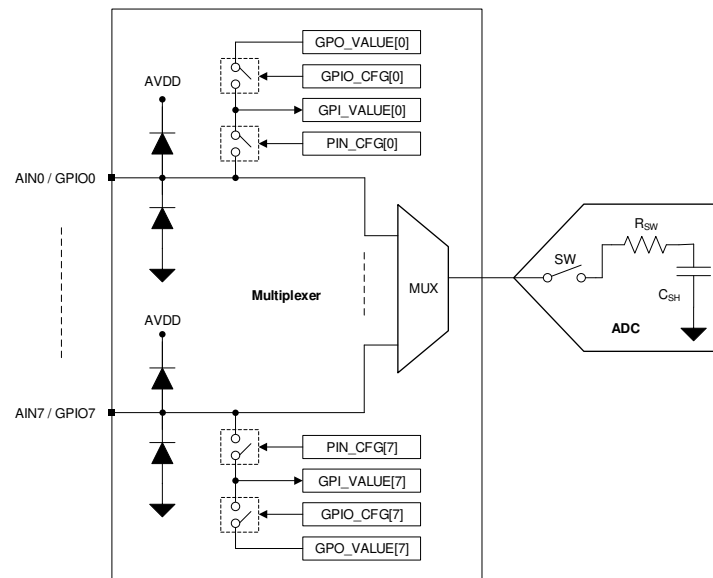

Figure 22. Analog Inputs, GPIOs, and ADC Connections
The eight channels of the multiplexer can be independently configured as ADC inputs or general-purpose inputs/outputs (GPIOs). Figure 22 shows that each input pin has ESD protection diodes to AVDD and GND. On power-up or after device reset, all eight multiplexer channels are configured as analog inputs.
Figure 22 shows an equivalent circuit for pins configured as analog inputs. The ADC sampling switch is represented by ideal switch (SW) in series with the resistor R_{SW} (typically 150 Ω) and the sampling capacitor, C_{SH} (typically 12 pF).